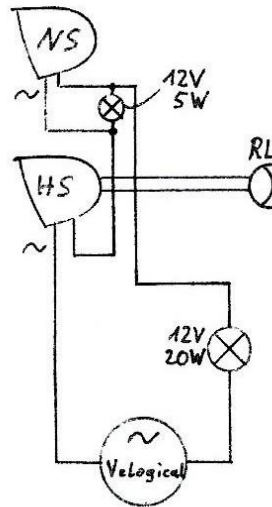

Figure 4
Figure 4 shows a dual headlight system for high-speed drivers who want to use the excess dynamo power for improved road illumination, especially at higher speeds. Here, the secondary headlight (NS) is bridged with a low-power thermistor (12V/5W) so that the limited dynamo voltage is applied as fully as possible to the main headlight (HS) when driving slowly. Only at higher speeds does a usable voltage also build up at the secondary headlight. Of course, the rear light is connected to the main headlight here. The 12V/5W cold lead is only supplied on request.